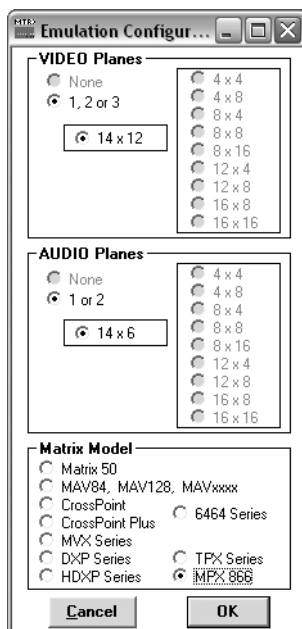

Figure 5-15 — Emulation Configuration window
5. Select the MPX 866 matrix model and click *Ok* (figure 5-15).